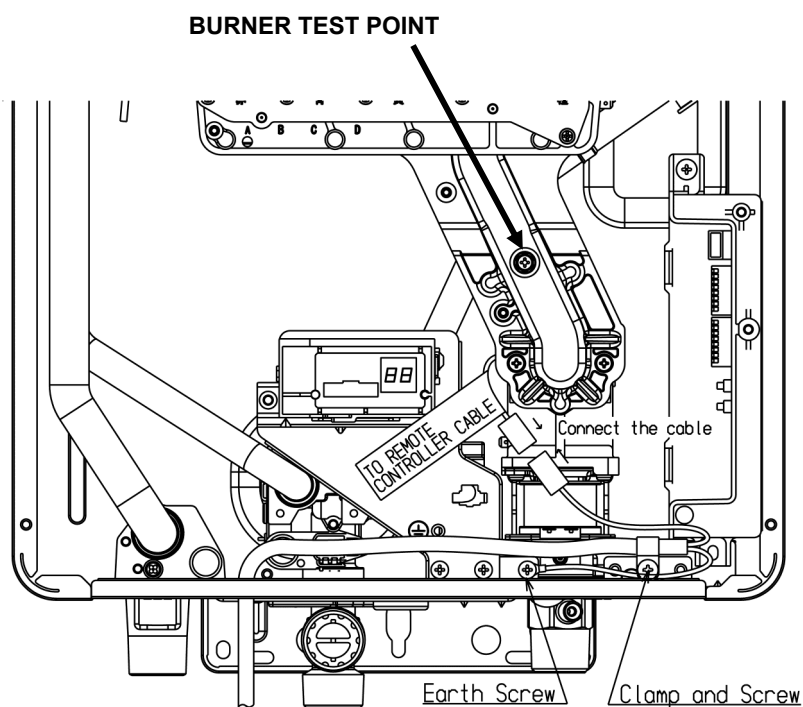

Fig. 2
5. Attach pressure gauge to burner test point. (Fig. 2)